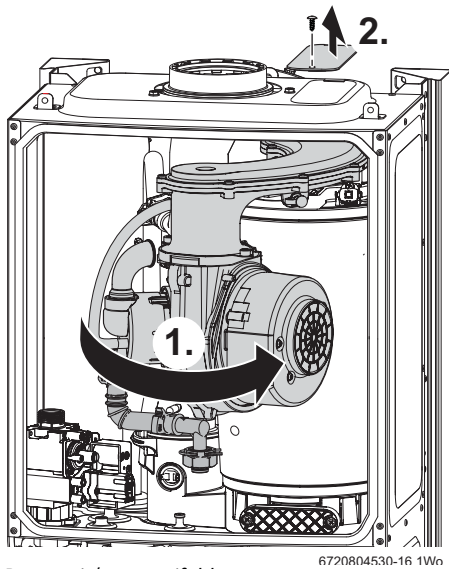
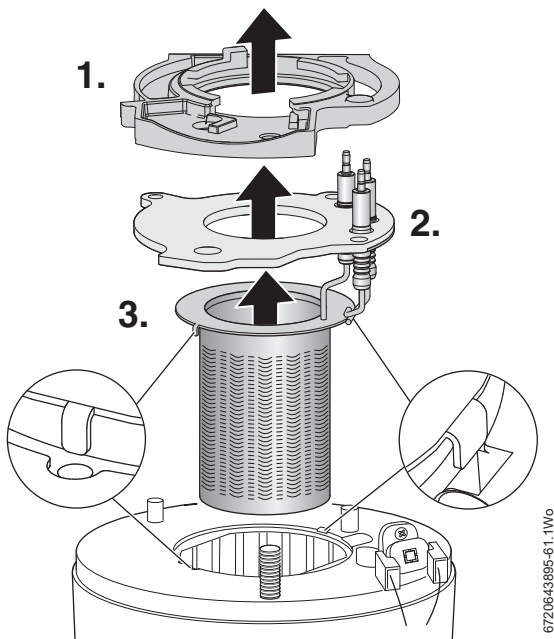
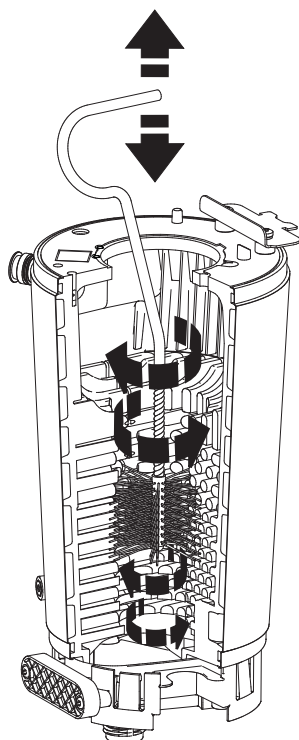

Fig. 60 Rotate air/gas manifold
Fig. 61 Burner removal
Fig. 64 Cleaning heat exchanger
1. Refer to figure 60 and rotate fan and air/gas manifold assembly around the top of the heat exchanger until it stops at the lug.
Refer to figure 61
- ▶ Refer to figure 64 and access the heat exchanger flue ways by inserting the cleaning brush (7 716 192 312) through the top access hole in the casing, removal of panel shown in figure 60.
- ▶ Re-assemble ensuring that the lower baffle (2) and the top baffle (1) are refitted correctly.
- ▶ Refer to figure 61 when re-fitting the burner to ensure that it fits centrally within the heat exchanger and location tabs are situated in location holes.